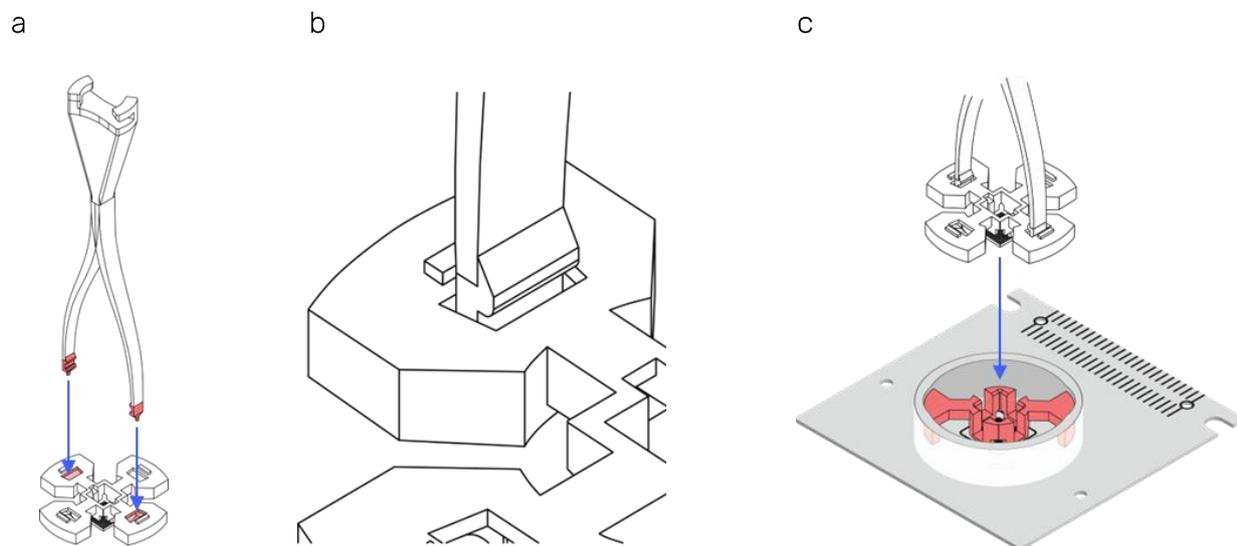

Figure 7. Using the handling tool to lift the insert (a, b) and place it into the frame (c).
8. Place the assembled sample holder insert / silicone net into the sample holder frame. Using the handling tool, lift the assembled insert / silicone net (Fig. 7a & b) from the soaking solution (step 3) and gently lower it into the frame (Fig 7. c).